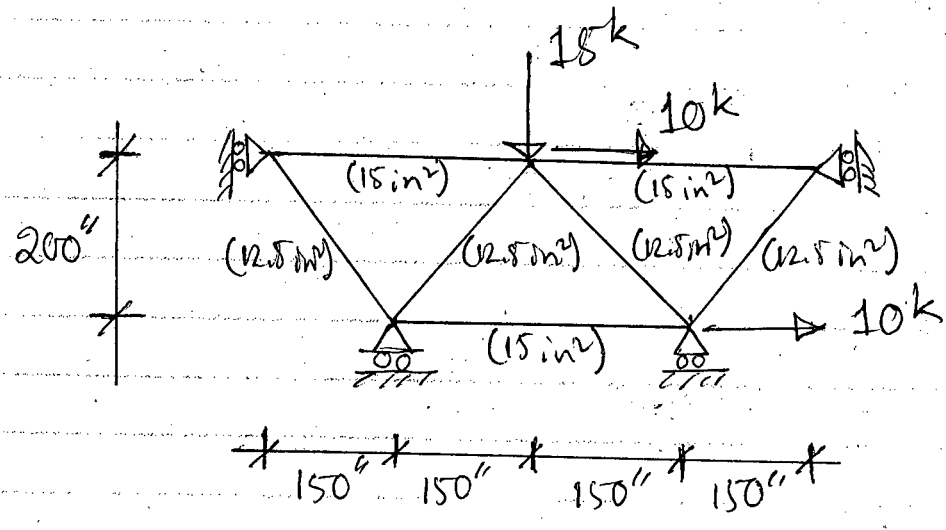

Fig. 14
8. For the truss shown in Fig. 14, write down the co-ordinate matrix, connectivity matrix, member property matrix, loaded node matrix, stiffness matrix of each member and global stiffness matrix of the truss. **Consider support conditions and write down the modified stiffness equations.** Given: $E = 30,000$ ksi. Member areas are given in parenthesis.